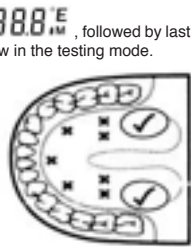

Figure 2
- Oral Use:** Place thermometer under tongue as indicated by  $\sqrt{h}$  position shown in Figure 2. Close your mouth and breathe evenly through the nose to prevent the measurement from being influenced by inhaled/exhaled air. Normal temperature between 35.7°C and 37.3°C.